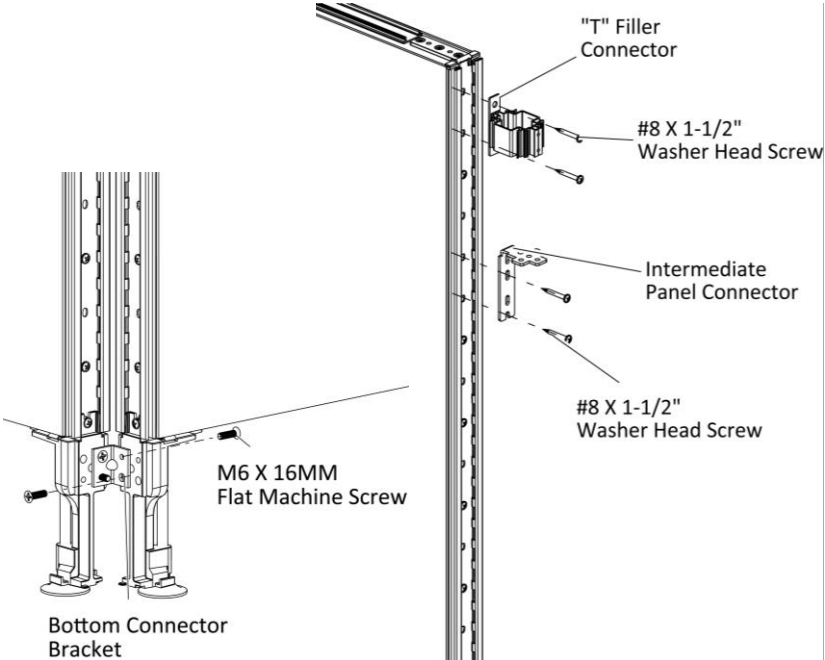

Figure 4
- Securely fasten the base with two M6 X 16MM Flat Machine Screws, (Figure 4).